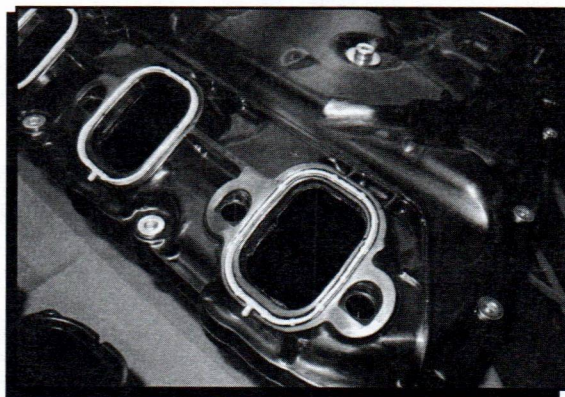

Figure 11 Install the Port Seals.
4. If re-using the port seals, remove them from the OEM intake manifold and ensure that they are not torn, damaged or suffering from excessive compression set. Wipe with a clean cloth or towel to remove any oil film or debris. It is recommended to install new seals, AC Delco PN 12626354 (sold individually, eight required). Install the eight port seals and ensure that they are fully seated in the retention grooves (Figure 11).